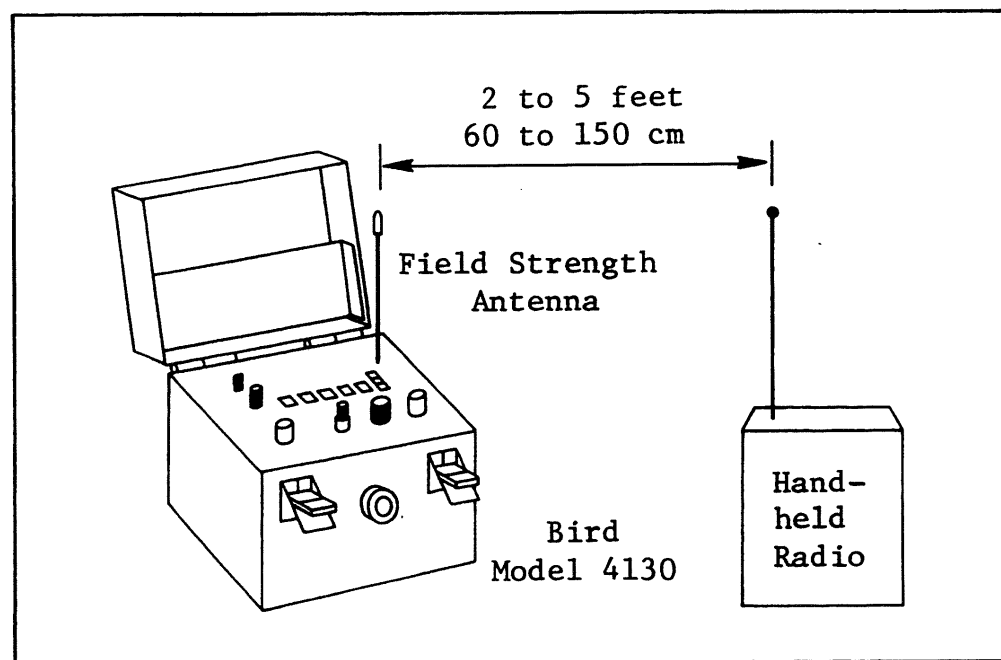

Figure 4-1 Relative Field Strength Measurement
- (a) Position the radio set and Model 4130 as shown in Figure 4-1.